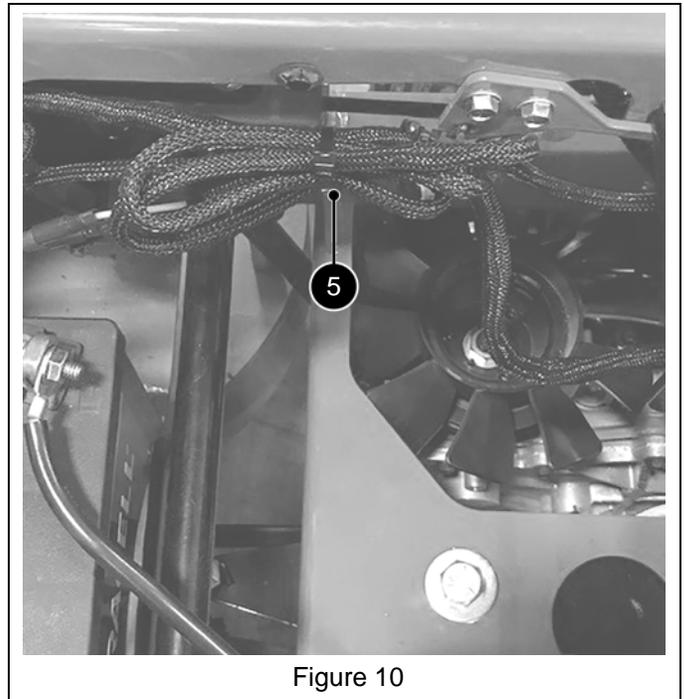

Figure 10
9. Secure harness using one cable tie (item 5). See Figure 10.